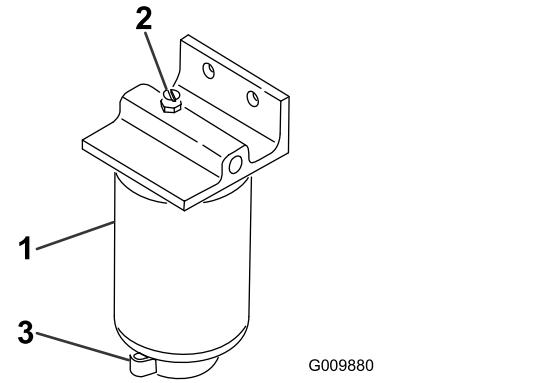

Figure 58
2. Loosen the drain valve on the bottom of the filter canister (Figure 58).
1. Clean the area where the filter canister mounts (Figure 58).